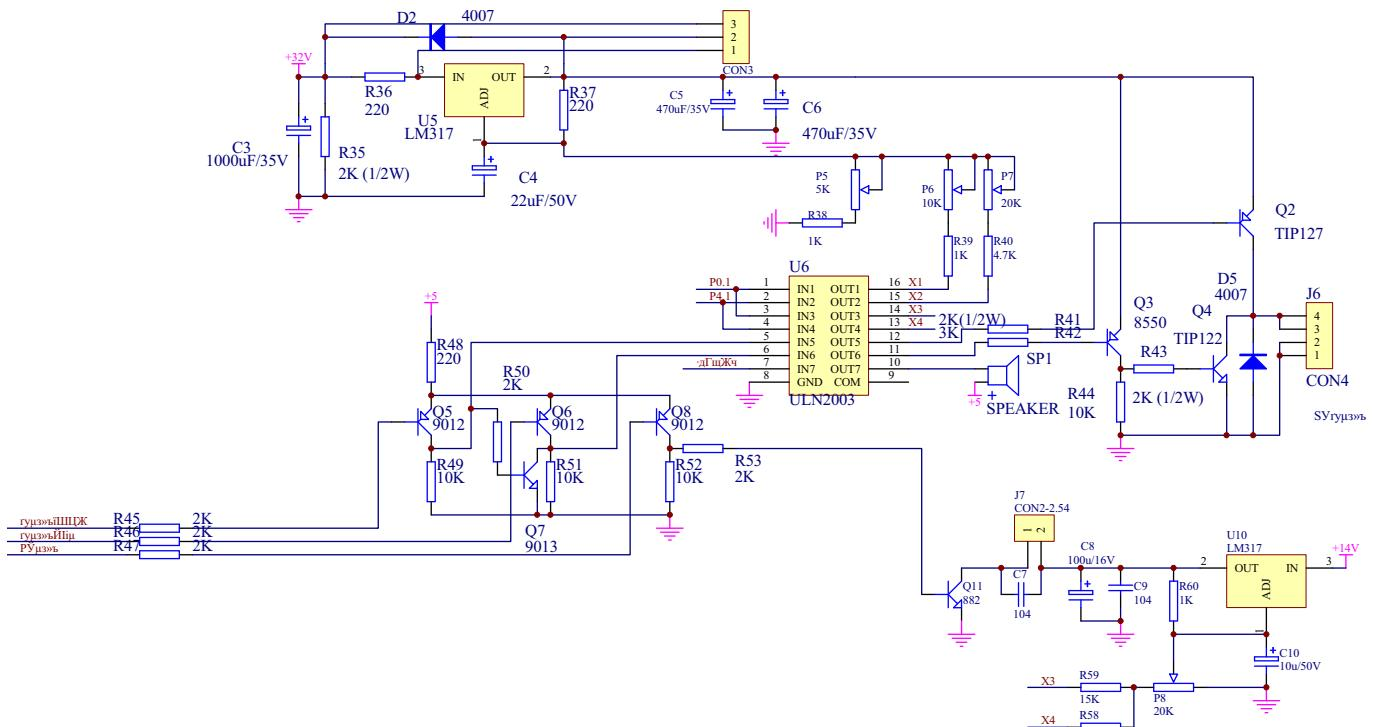

Fig.27B The Controlling Element Diagram of Small Motor
### (2) PRO85UM, PRO85UM/S Circuit (Fig.27B)
- (2) PRO85, PRO85U Circuit (Fig.27B)